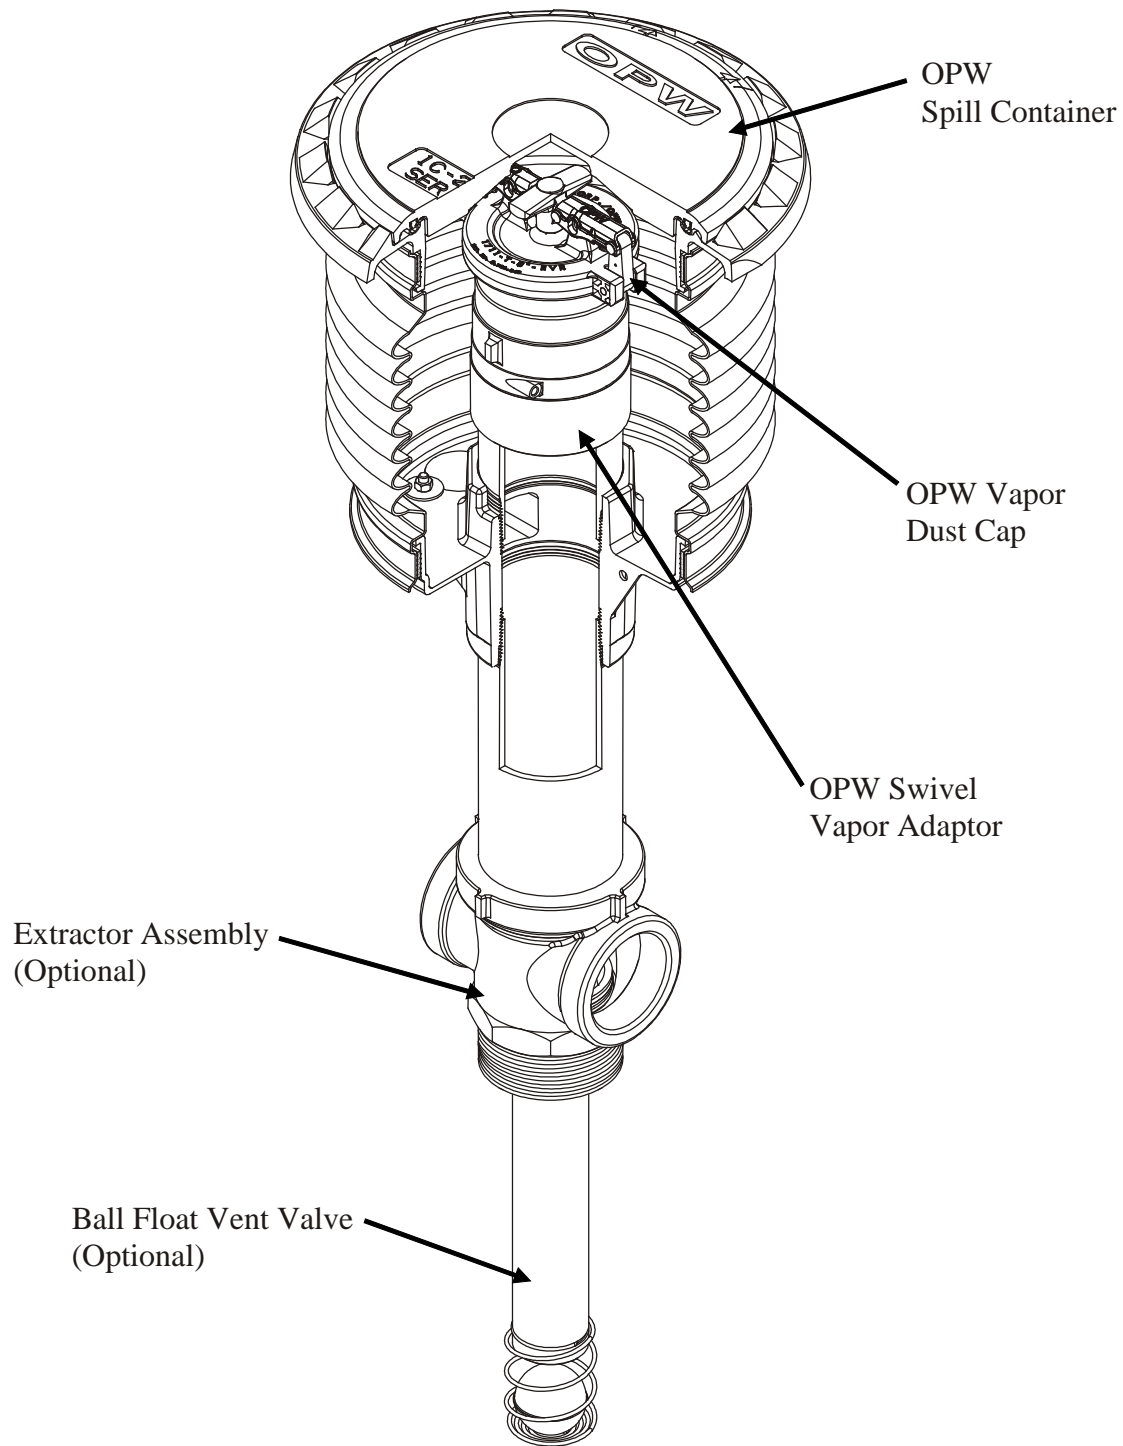

Figure 2-4
2. Typical installation of the OPW remote fill system is shown in Figures 2-4 and 2-5. Typical installation of the OPW remote additive fill system is shown in Figure 2-6.